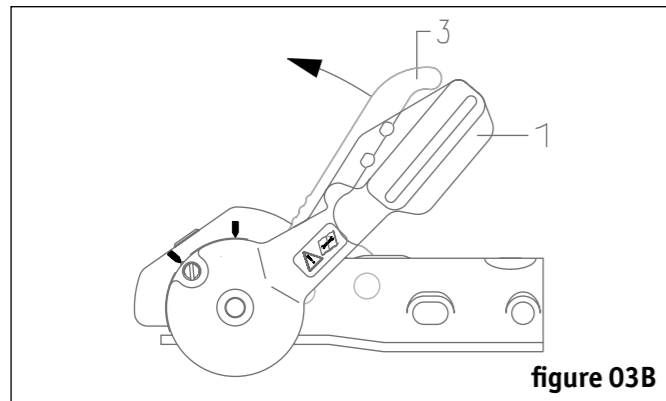

figure 03B
Opening the ball hitch - to open the hitch, pull the ball hitch handle (fig. 03B, pos. 3) up in the direction indicated by the arrow. The coupling mechanism has an opening which remains in the open position so long as the AKS 1300 is not placed on the tow ball of the vehicle. The tow hitch handle must automatically and audibly return to its original position. Then push the handle (fig. 03B, pos.3) down by hand. Latching and securing occur automatically.